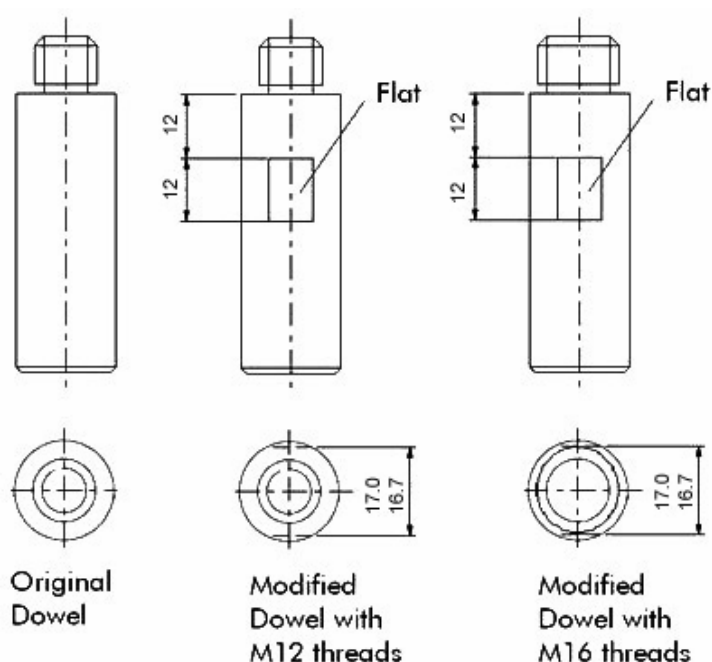

Figure 4: Improved Locating Dowels Compared to Original Type
7. Examine the two locating dowels, checking that they are present, secure and not worn. They must be of the improved type with flats on the shank (see Figure 4). Confirm with the Engineer which dowel thread is to be used.